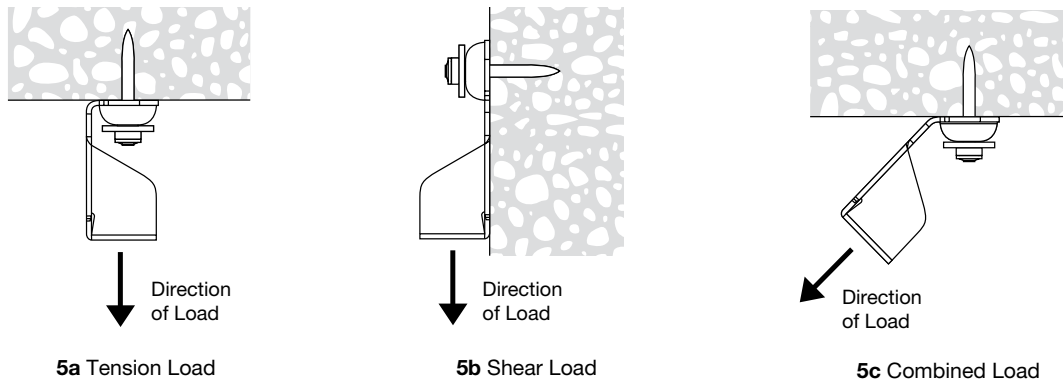

Figure 1 – Installation Instructions
- Reference Figures 1, 2 and 3 for nominal flute dimensions, fastener locations, and load orientations.